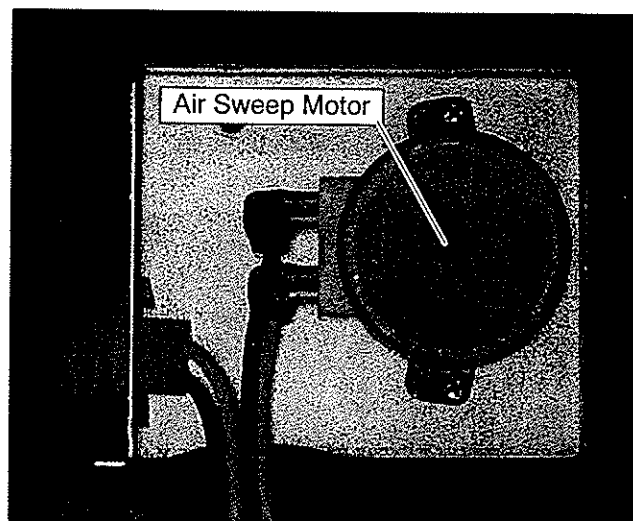

Figure 3-7 Air sweep motor
- e. Remove 2 screws securing air sweep motor (Figure 3-7) to control box and remove motor.